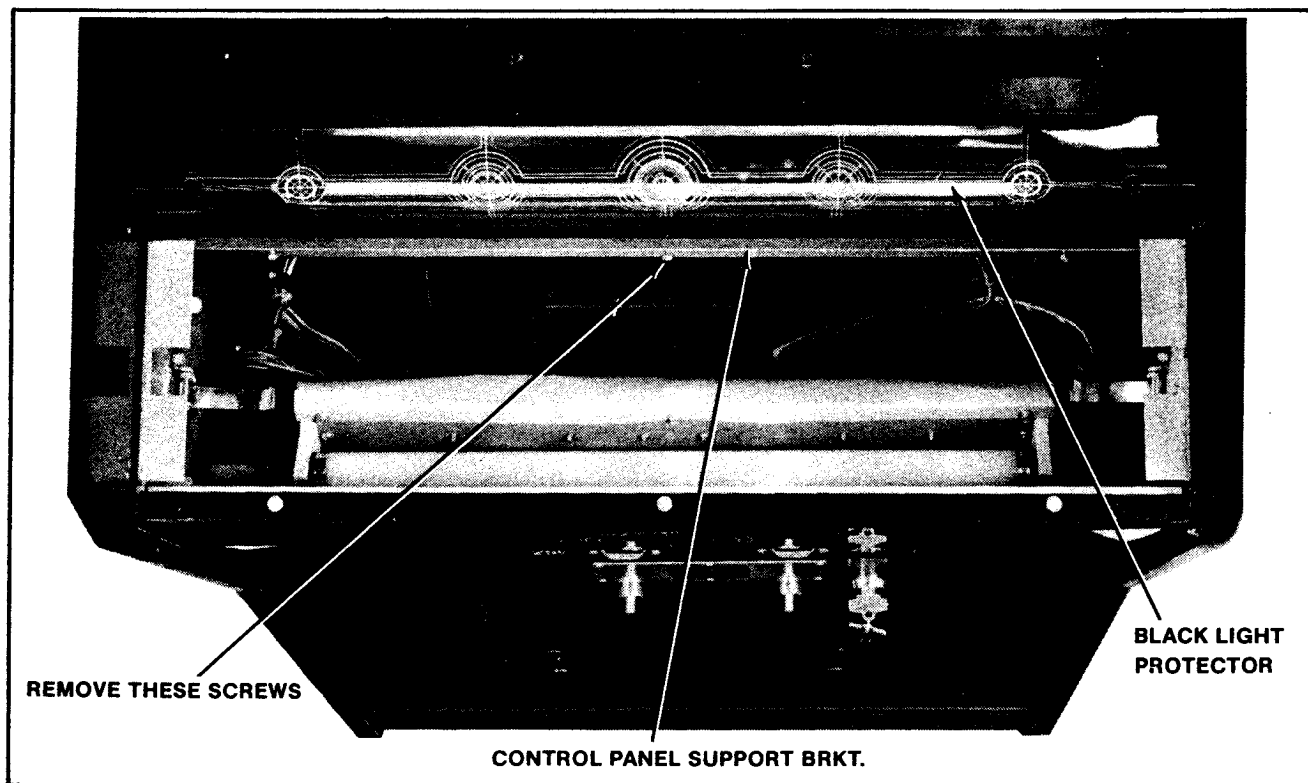

Figure 4-19 Servicing Control Panel Black Light — Upright
2. Remove the control panel as described previously. This exposes the bottom row of screws which secure the control panel support bracket and the black light protector in place. See Figure 4-19.